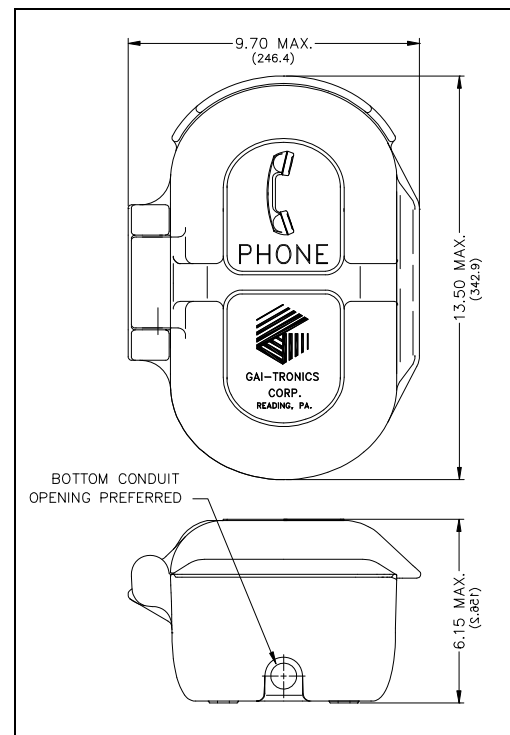

Figure 4. Model 226-700 Outline
5. Install a conduit fitting in one of the 1/2-inch NPT conduit entrances provided at both the top and bottom of the unit, and insert the conduit into the fitting. (The bottom location is preferred. See Figure 4.) Plug the unused access hole using the 3/8-inch Allen drive plug provided.